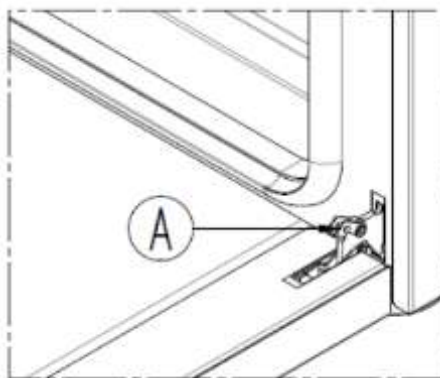

Fig. 7
- completely turn the movable hinge part "A" (Fig. 7);